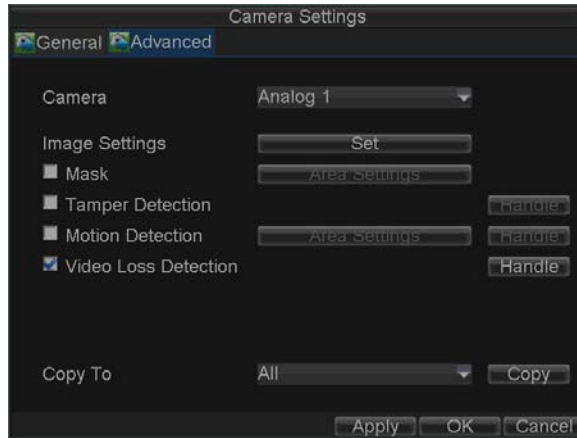

Figure 15. Camera Settings Menu
4. Check the **Video Loss Detection** checkbox to enable this feature, as shown in Figure 15.